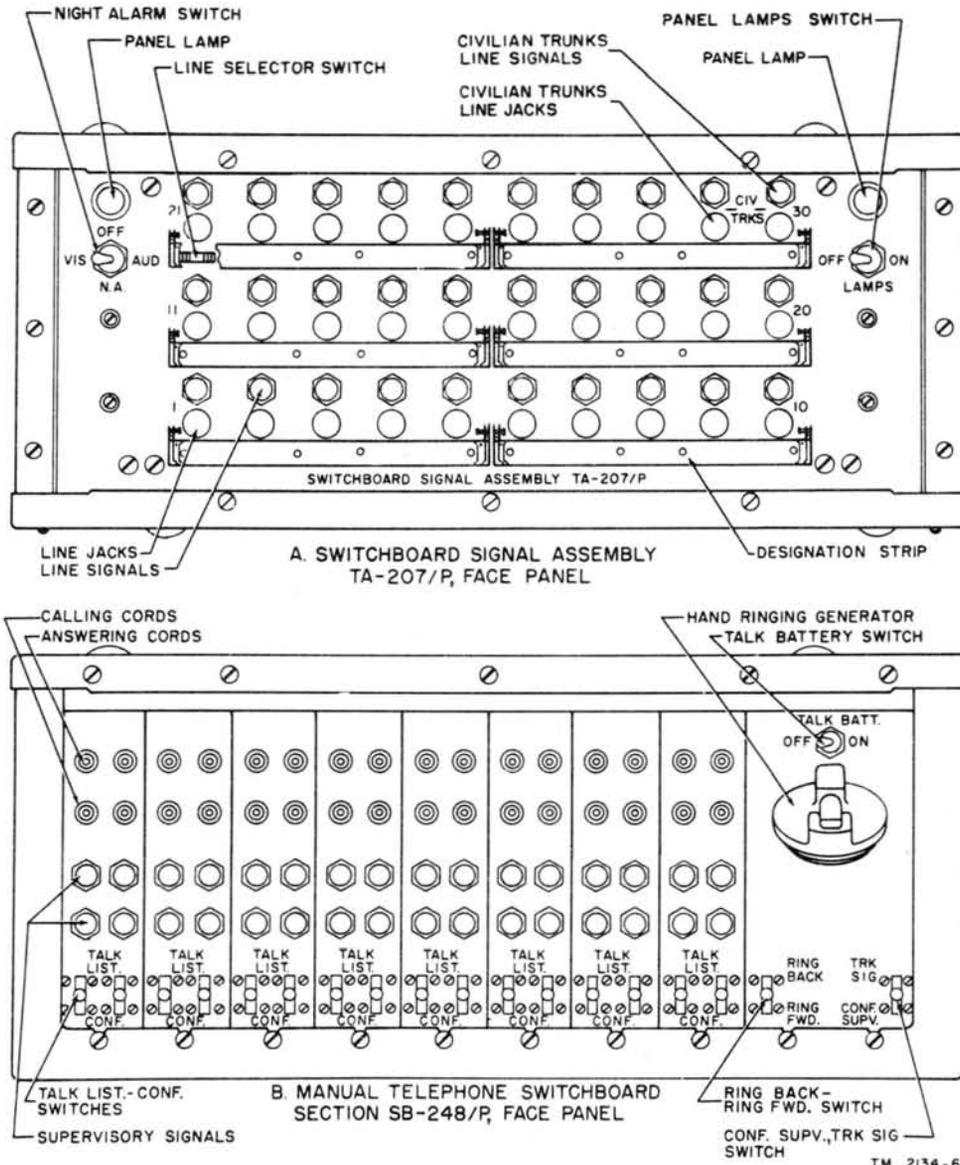

Figure 19. Jack field section and keyshelf section, showing operator's controls.
a. *Line Selector Switches* (A, fig. 19). The line selector is a three-position thumb-wheel switch located behind the hinged designation strip and below the associated line jack. A circuit selector switch is provided for each line circuit. The thumb wheel extends through the front panel and may be rotated in either direction to obtain the proper setting. Subparagraphs (1) through (3) explain each position of the switch.
- (1) The line selector switch is operated to the C position when the line circuit is to be used for common battery signaling. When the line selector switch is in this position, the calling party lifts the handset from the hookswitch and the line signal is operated from the 24-volt battery supply at the SB-86/P. The transmission (talking) battery *must* be supplied at the telephone set.
- (2) The line selector switch is operated to the M position when the line circuit is to be used as a magneto line. When the circuit selector switch is in this position,
### 32. Switchboard Signal Assembly TA-207/P (A, fig. 19)
### 33. Cord Telephone Circuit TA-208/P (B, fig. 19)
### 34. Operator's Telephone Circuit TA-220/P (B, fig. 19)
#### a. Jack Field Section (A, fig. 19).
- (2) The panel lamp switch (LAMPS OFF-ON) is located in the upper right corner of the front panel. This switch controls the panel lamps that can be used to illuminate the front panel and the keyshelf. When the panel lamps are being used to illuminate the switchboard, they cannot be used as visual night alarm signals.
b. Keyshelf Section (B, fig. 19)
- (1) The operator's battery switch (TALK BATT. OFF-ON) is located at the top of the operator's pack. This switch controls the battery supply to the operator's